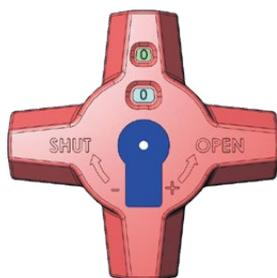

Figure 1
1. Fully close the valve. (Figure 1)